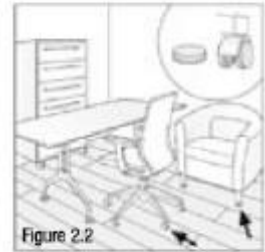

Figure 2.2
- ❖ To help guard against scratches and dents, install felt floor protectors under furniture legs and equipment (Figure 2.2).
- ❖ Use soft rubber castors for rolling furniture (Figure 2.2).